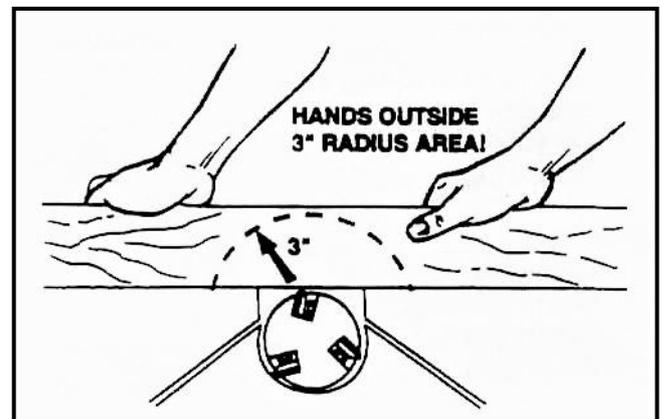

Fig. 1
**3 INCH RULE:** When working a piece of wood on the jointer, follow the 3 inch radius rule. The hands must never be closer than 3 inches to the cutterhead. Fig. 1